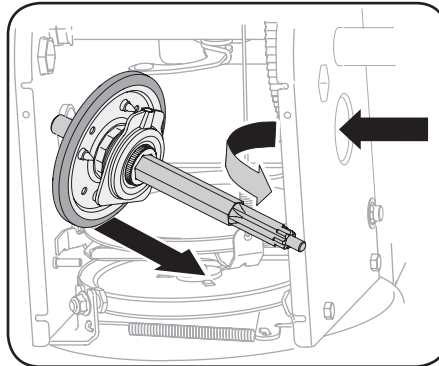

Figure 4-22
6. Carefully position hex shaft downward and to left before carefully sliding friction wheel assembly off shaft. See Figure 4-22.